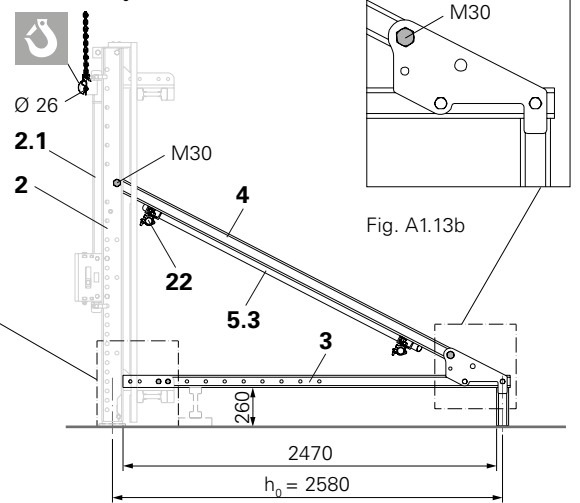

Fig. A1.13
- Depending on the planned static height h_0 , the various M20 and M30 screw positions for connecting the crossbeams and diagonal struts to the vertical struts must be taken into consideration. (Fig. A1.13 / A1.14)
→ Bracing. (Fig. A1.13 or A1.14)